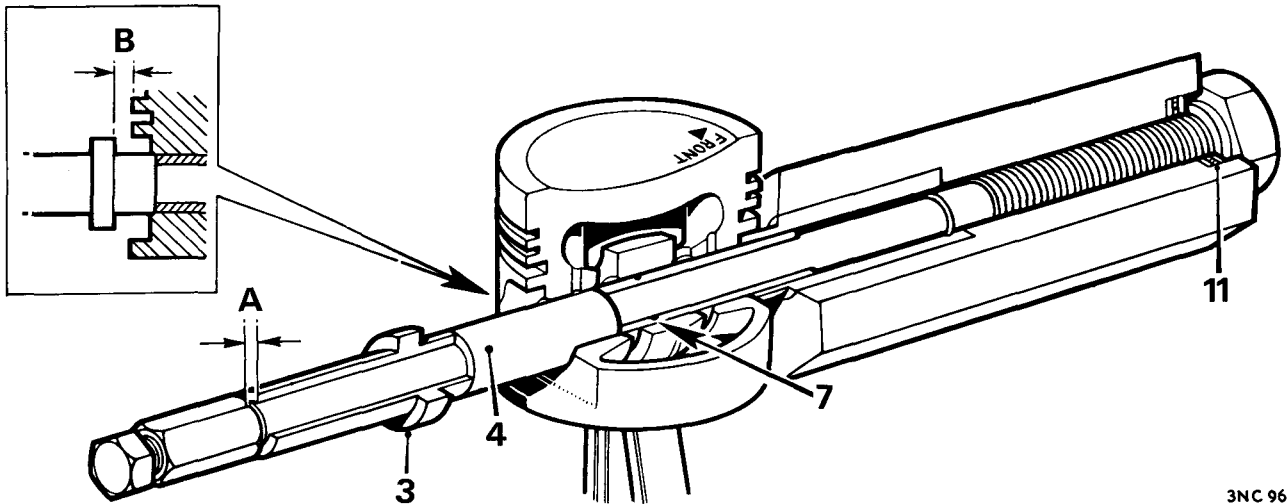

Fig. A.33
- Screw the stop nut onto the centre screw and adjust to the correct end-float ('A' Fig. A.33). Lock the nut securely with the lock screw.
Using the torque wrench and 18G 587 on the large nut, and holding the lock screw, pull the gudgeon pin in until the flange of the remover/replacer bush is the correct distance from the piston skirt ('B' Fig. A.33).